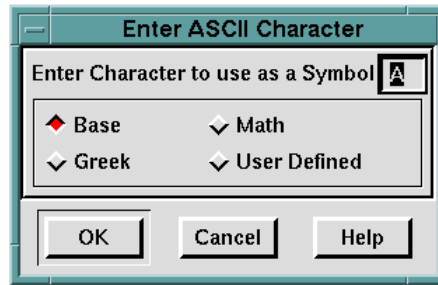

Figure 14-4. The Enter ASCII Character dialog.
4. Click on the desired symbol shape. If you click on Other, the Enter ASCII Character dialog appears, as shown in Figure 14-4.